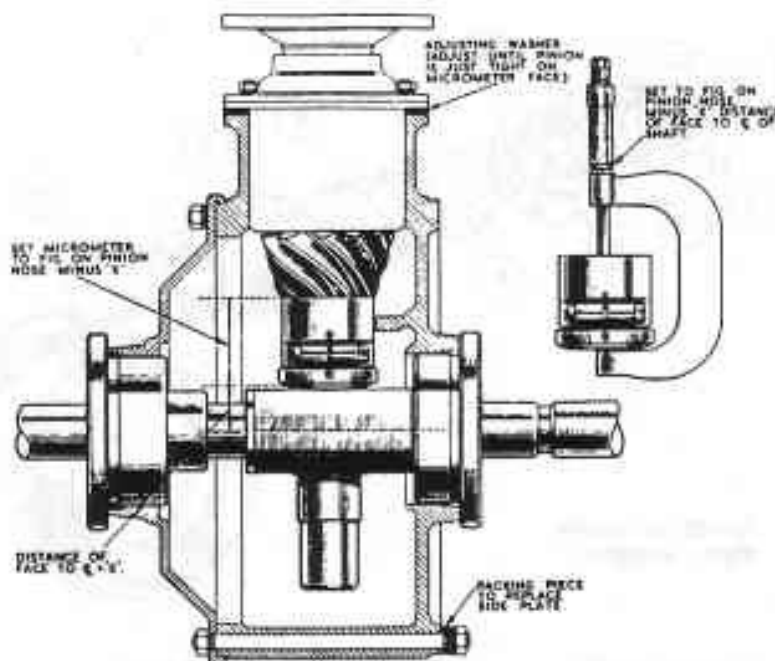

FIG. J15. PINION SETTING TOOL IN POSITION.
- b) Set measuring piece, see Fig. J15, to resultant dimension and lock.
- d) Fit pinion setting tool into casing, see Fig. J15, using original adjusting washer, chamfer upwards, under pinion housing flange.
NOTE:- The pinion setting tool Fig. J15, is not suitable for Silver Wraith Long Wheelbase or Phantom IV models.